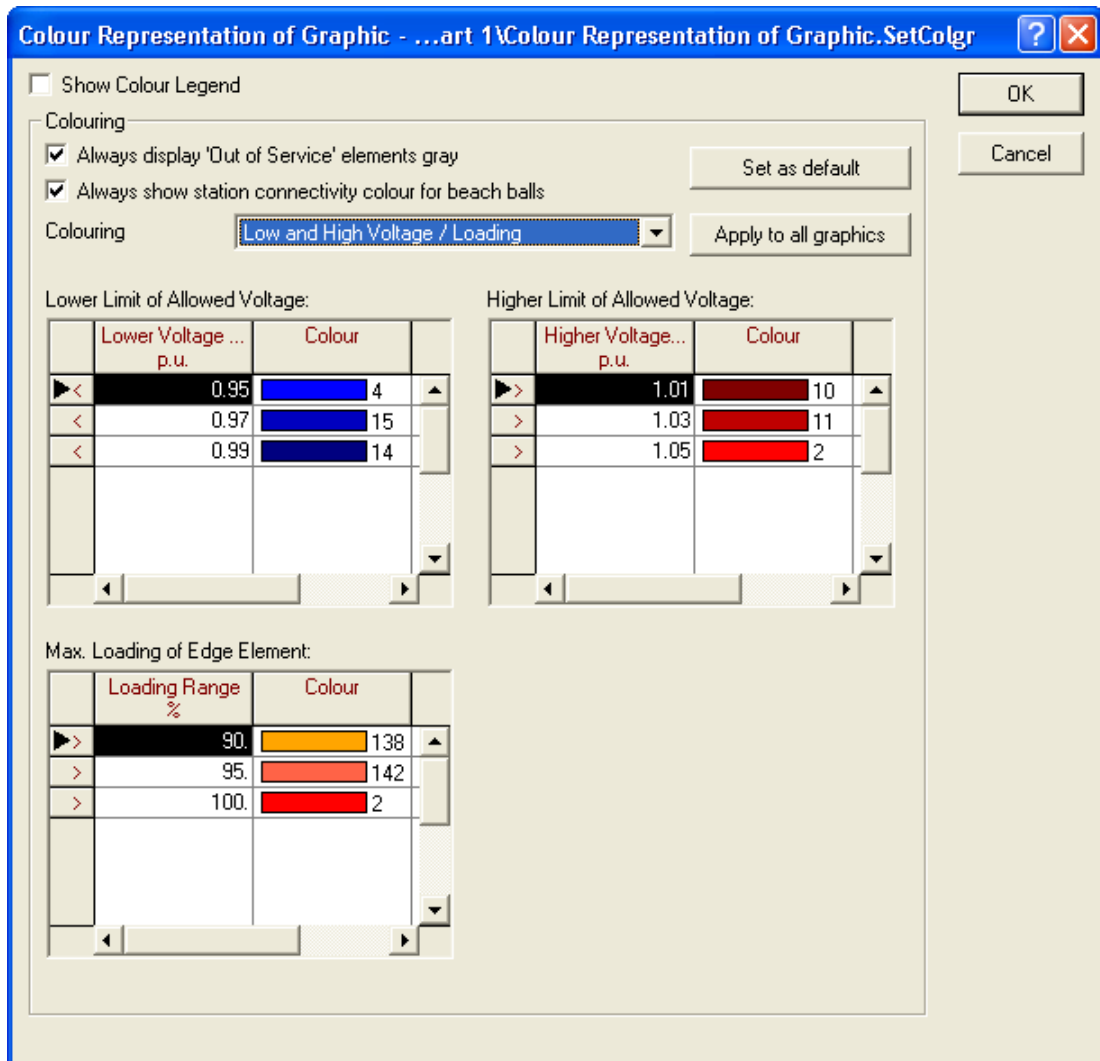

Fig. E.7: Colour Representation of Graphic
- ▶ Click the 'Colour Representation' button () in the graphic window icon bar. The 'Colour Representation of Graphic' dialogue will open (figure E.7).
- ▶ The dialogue window should look like figure E.7 now. Close the dialogue with **OK**.